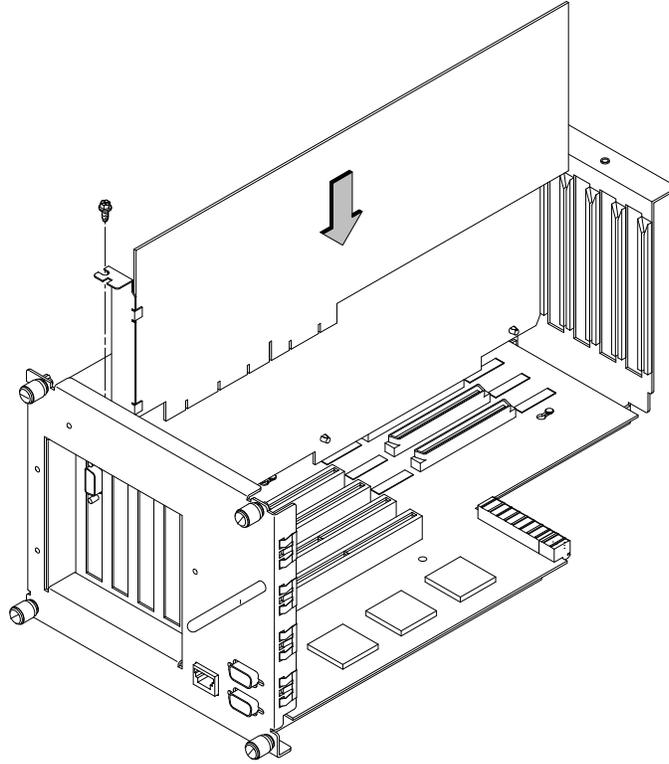

Figure B-37. Installing an EISA or Graphics Board in the EISA Assembly
5. Place EISA or graphics board you are installing in the board guides and slide firmly into the connector. Check to see the board is evenly inserted to seat properly. See Figure B-37.